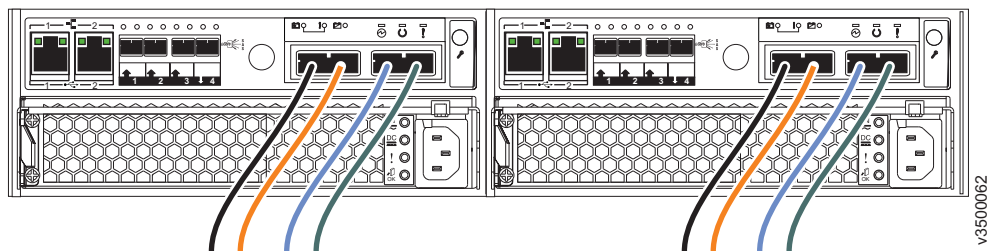

Figure 32. Example configuration with four Fibre Channel cables per canister
2. If you want to connect additional Fibre Channel cables, make sure to connect the same number of cables to each canister. Figure 32 shows an example configuration with four Fibre Channel cables connected to each canister.